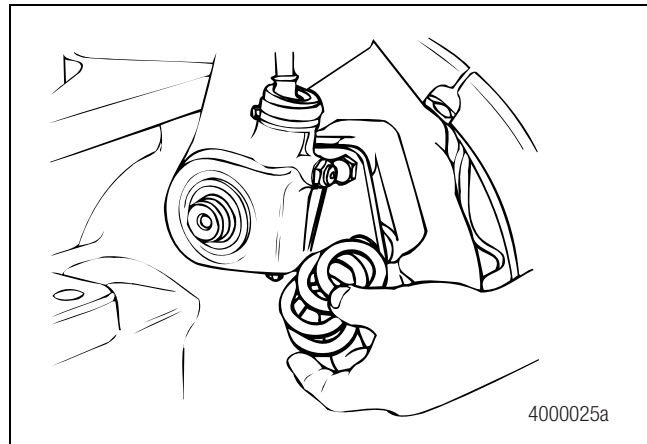

Figure 3.12
2. Remove the slack adjuster shims at the adjuster end of the camshaft. Figure 3.12.